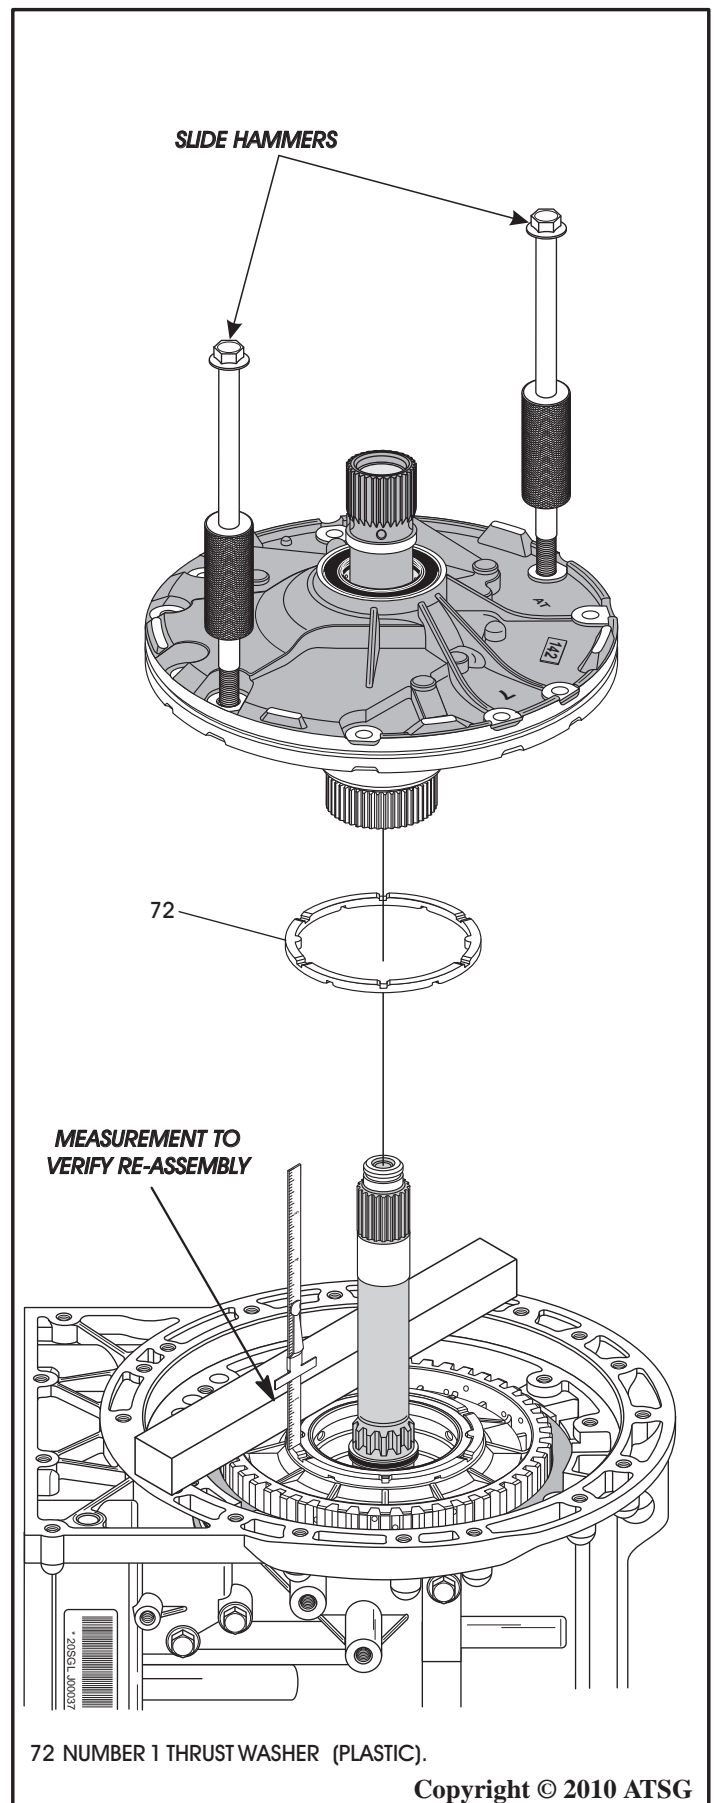

Figure 54
30. Install slide hammers into oil pump in positions shown in Figure 54.
31. Using the slide hammers to loosen the oil pump and remove oil pump as shown in Figure 54.
33. Remove the number 1 plastic thrust washer, as shown in Figure 54.
Important: If the washer did come off with the oil pump, put it back on the K3 clutch housing and measure distance from straight edge to thrust washer, as shown in Figure 54. Record this measurement to verify proper re-assembly.